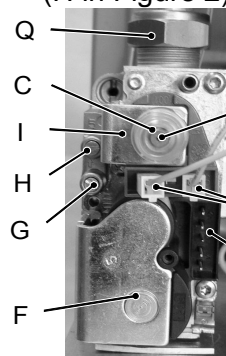

Figure 2
- 2) Open the gas valve inlet pressure test point (G in Figure 2) at the valve input, connect a suitable pressure gauge and check the gas pressure of the supply network.
- 4) Open the gas valve outlet pressure test point (H in Figure 2) and connect the gauge.
- 7) Rotate the maximum gas pressure adjustment (C in Figure 2) until you obtain the required pressure (by rotating clockwise the pressure increases).
- 8) Turn the boiler off and disconnect one of the two connectors (D in Figure 2).
- 9) Start the boiler and rotate the minimum gas pressure adjustment (B in Figure 2) until you obtain the required pressure (by rotating clockwise the pressure increases).
- 2) Disconnect the connectors D (Figure 2) from the modulating operator and measure the electrical resistance of the coil. Its electrical resistance value must be approx. $114 \Omega^*$.